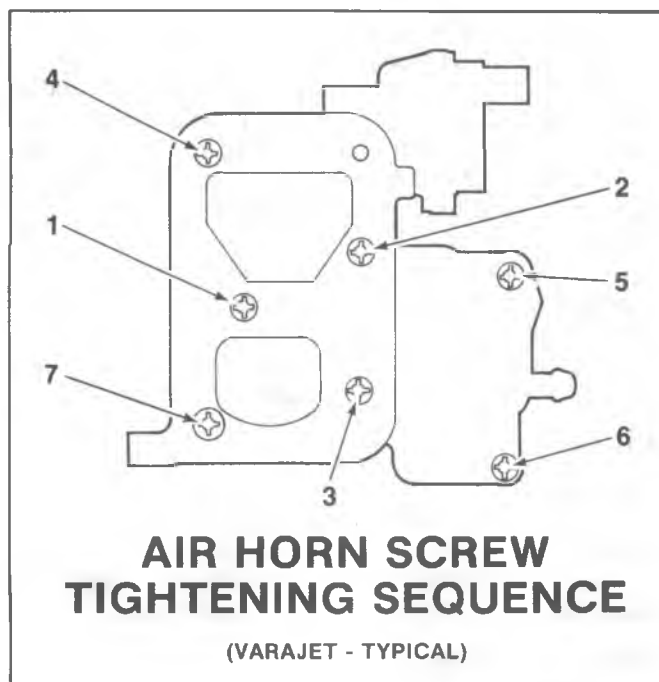

Fig. 6C2-39—Air Horn Tightening Sequence
1. Rotate fast idle cam to the full UP position and tilt the air horn assembly to engage lower end of fast idle cam rod in slot in fast idle cam (Fig. 6C2-24); then, holding down on the pump plunger assembly, carefully lower air horn assembly onto float bowl, guiding pump plunger stem through hole in air horn casting. Do not force air horn assembly onto bowl, but rather lightly lower in place.
2. Install vent and screen assembly on air horn assembly located in area between the primary and secondary bores (Fig. 6C2-23). Then, install (7) air horn to bowl attaching screws and lockwashers. (4) long air horn screws are located in the primary and secondary venturi area of which (2) longer screws hold the vent and screen assembly in place and one (1) larger head screw goes next to the choke valve on the primary side. In addition (2) short screws are located on the fuel inlet side; and (1) short screw is located in the area beneath the hot idle compensator valve. All air horn screws must be tightened evenly and securely. See Fig. 6C2-39 for proper tightening sequence.
3. If equipped, install new seal in recess of float bowl; then install hot idle compensator valve and retain with (2) small attaching screws. Tighten screws securely.
7. Rotate solenoid bracket and insert end of secondary side vacuum break rod into upper slot of vacuum break lever. Install bracket on throttle body and install countersunk screws. Tighten screws securely (Fig. 6C2-20).